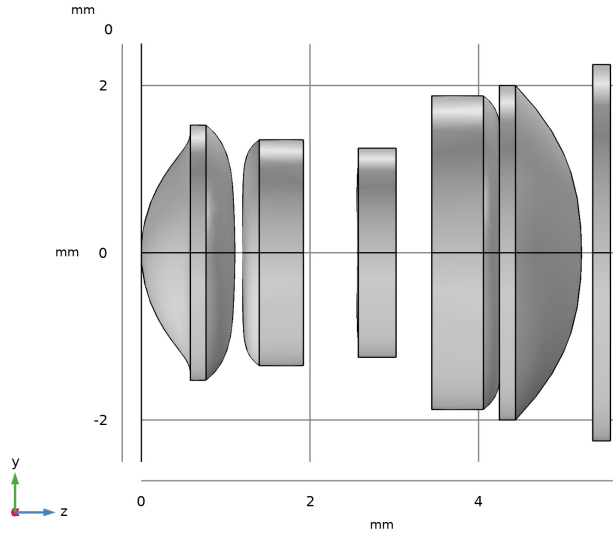
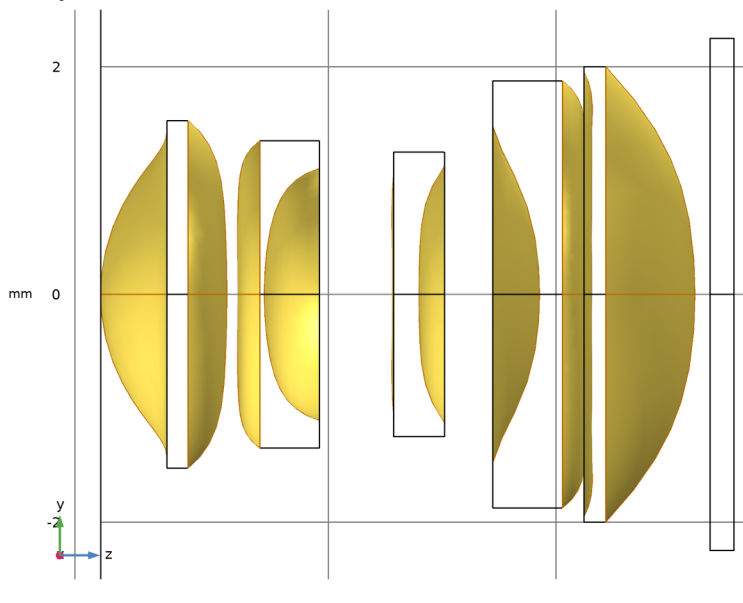
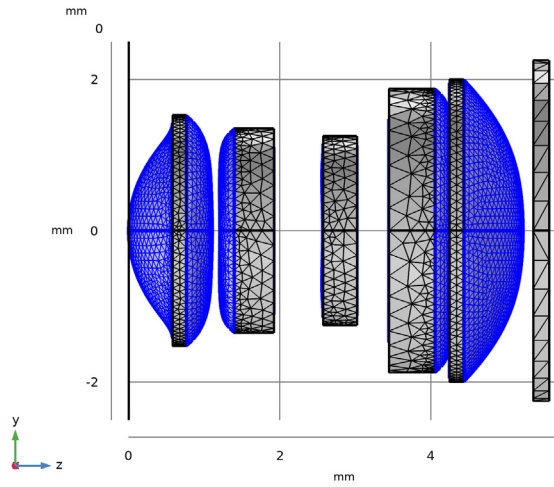
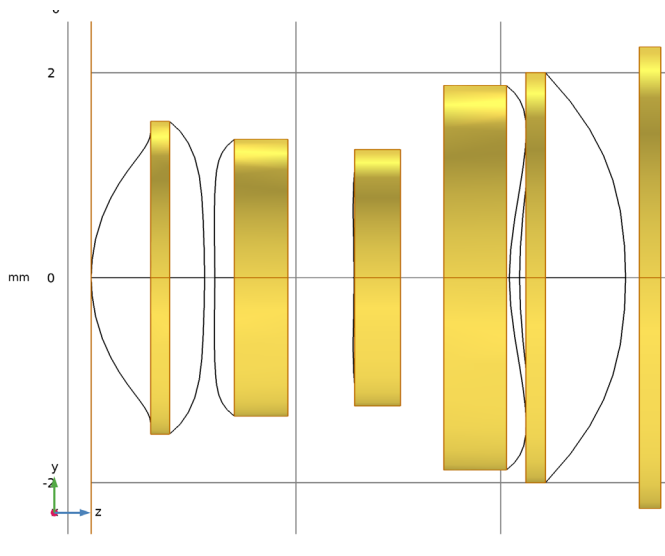

Figure 2: The Compact Camera Module geometry sequence. Instructions for creating the lens geometry can be found in the Appendix.
Figure 3: The Compact Camera Module aspheric surface cumulative selection.
Figure 4: The Compact Camera Module mesh. This view shows the aspheric surfaces on which the mesh has been refined.
Figure 5: The Compact Camera Module obstruction cumulative selection.
The detailed optical prescription is given in Table 1. Instructions for creating the lens geometry sequence (Figure 2) can be found in the Appendix — Geometry Instructions. In addition to the parameters used to define the Compact Camera Module geometry, a set of parameters are required to define the ray tracing model. These are listed in Table 2.
The ray tracing algorithm used by the Geometrical Optics interface computes the refracted ray direction based on a discretized geometry via the underlying finite element mesh. In this model, a cubic geometry shape order is used in order to reduce the discretization error. However, it is sometimes necessary to refine the mesh on certain surfaces in order to further reduce the effects of discretization. The aspheric surfaces of the Compact Camera Module have been assigned to a cumulative selection (Figure 3) on which the mesh has been refined (Figure 4).¹
The Compact Camera Module is assumed to be operating in air at room temperature. The wavelength is set to $\lambda = 587.56$ nm (that is, the wavelength at which the refractive indices are specified). Other Geometrical Optics features include the use of cumulative selections to define obstructions (see Figure 5) and the focal surface. A hexapolar grid release is used to launch rays at each of the four field angles. Each release has 25 rings, giving a total of 1951 rays per field angle. Detailed instructions for creating this model can be found in Modeling Instructions.
- 7 Click the **Orthographic Projection** button in the **Graphics** toolbar. Orient the view to place the optical axis (z-axis) horizontal and the y-axis vertical. Compare the resulting geometry to Figure 2. The **Cumulative Selections** defining the aspheric surfaces and obstructions can be seen in Figure 3 and Figure 5 respectively.